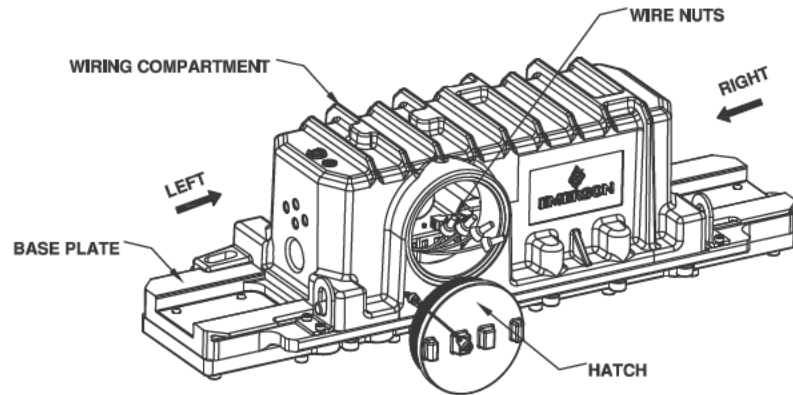

FIGURE 5: ERM-RIGMASTER EMERGENCY LUMINAIRE WITH WIRE NUT OPTION
- A. Open the hatch as shown in the Figure 9A to get access to wiring compartment. Insert Input wires through the open NPT hole on the Left-hand side. Connect electrical power supply leads to the wire nuts marked with L,L',N,G placed inside the wiring compartment. See Figure 5 for details.